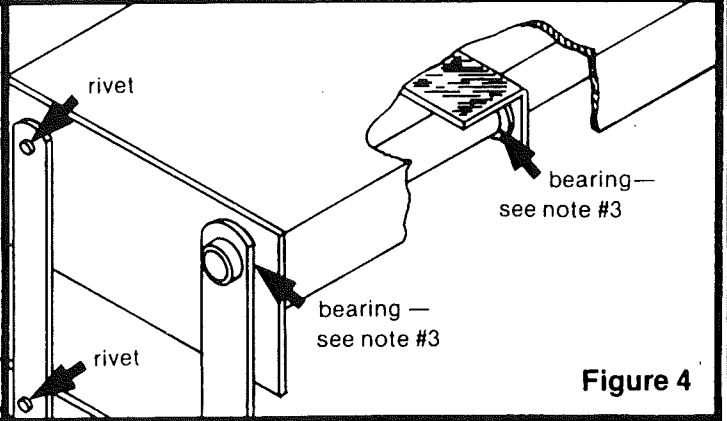

Figure 4
3. Figure 4 - 1 " O.D. tube bearing - lubricate around drive tube and between head of bearing and drive leg.